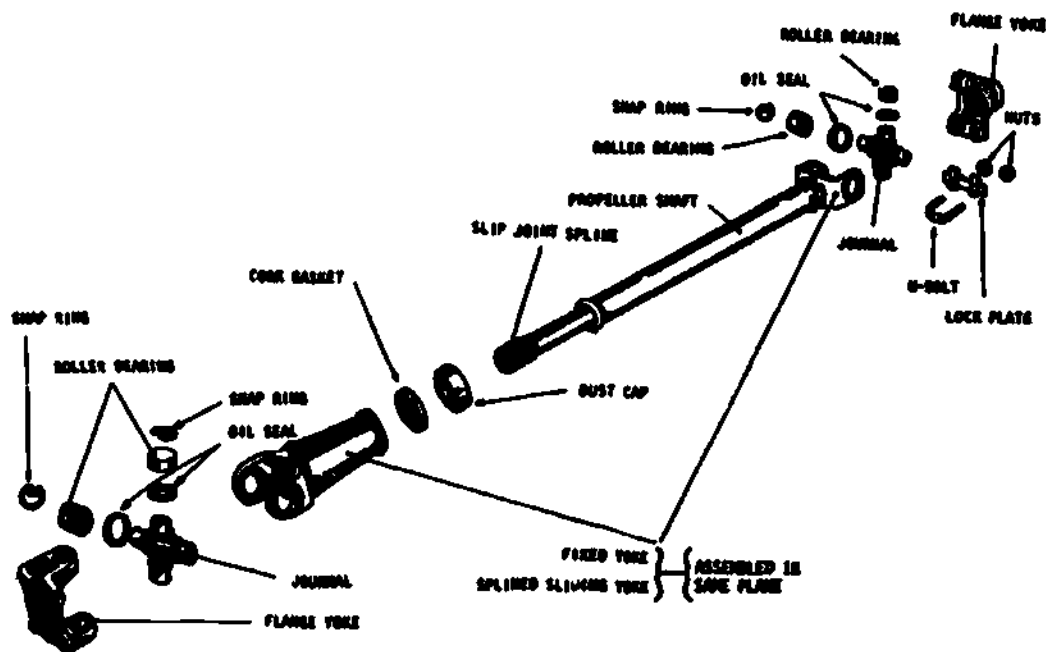

Fig 3-19. Propeller shaft disassembled.
- (1) Because flexing of the springs, component mounting, or operation cause the component housing to move forward and backward, a slip joint is installed. This allows the propeller shaft to lengthen and shorten as required by operating conditions.
- (2) A slip joint consists of a male and a female spline, a grease seal, and a lubrication fitting. The male spline is an integral part of the propeller shaft (fig 3-19) and the female portion is fixed to the universal joint directly behind the driving component. As the component housing moves forward and backward, the slip joint gives freedom of movement in a horizontal direction and yet is capable of transmitting rotary motion.